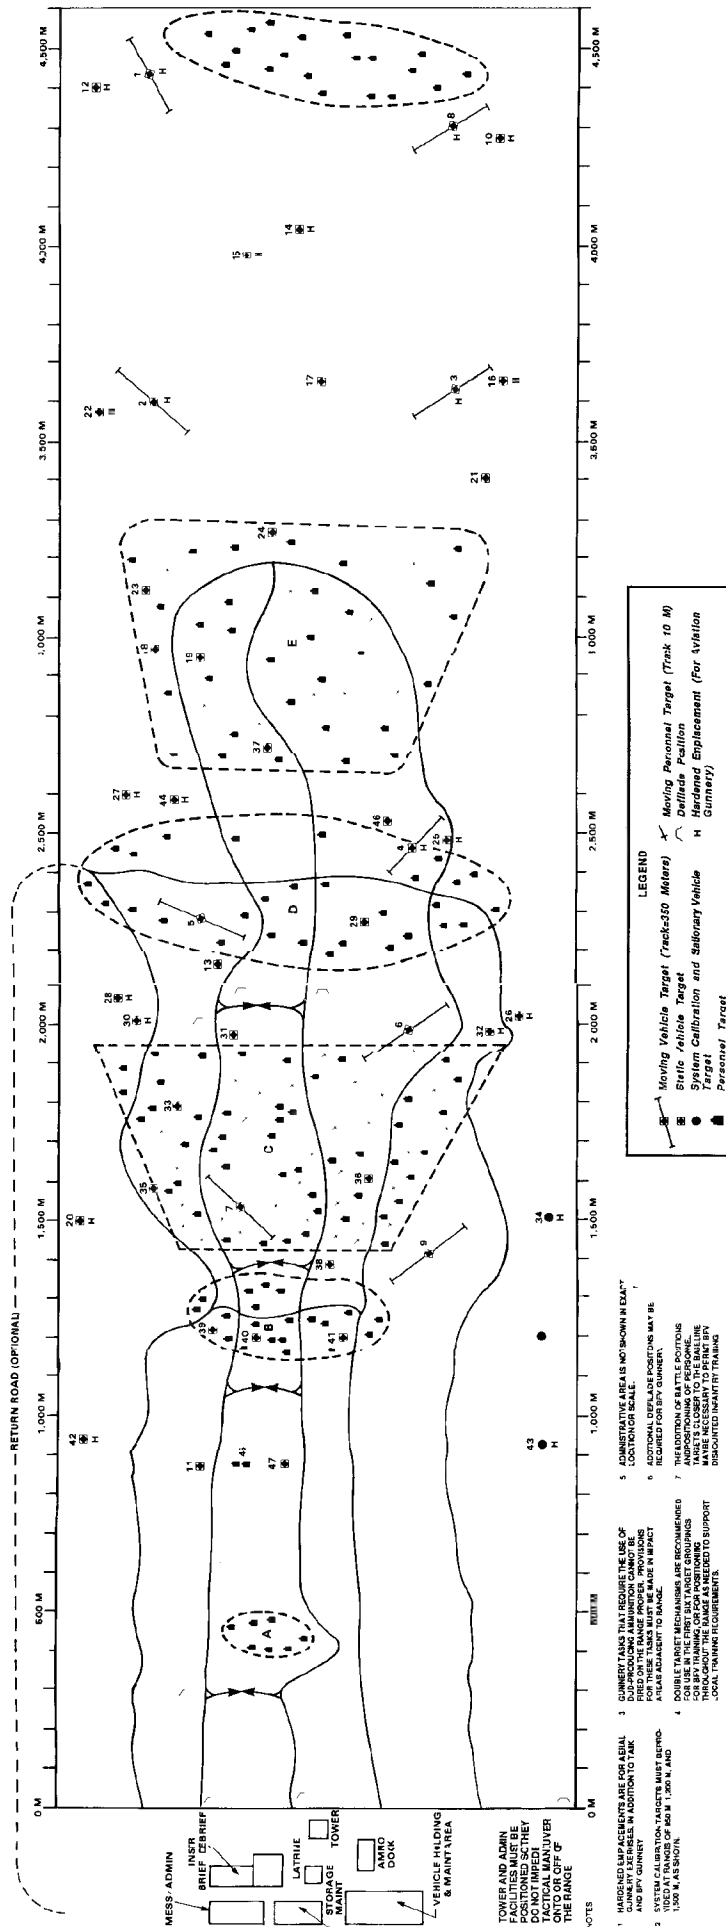

Figure C-2. Multipurpose range complex (light).
(1) A light MPRC consists of one 4,600-meter by 1,000-meter lane. This area comprises approximately 1,136 acres (Figure C-2, page C-4).
(2) The light MPRC has the following targets and fixed positions (see TC Z5-8 for target arrays):